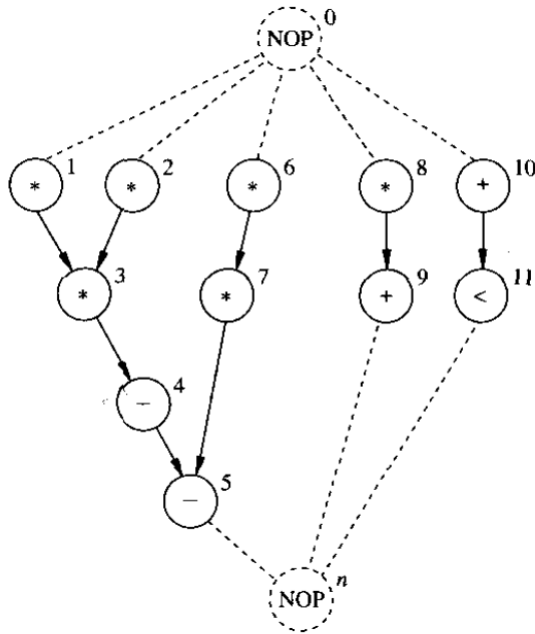

Fig. 1. Initial Sequencing Graph
**NOTE** Throughout the explanation of Force-Direct and Force-Direct List-Scheduling algorithms, the references ([1] and [2]) are using this specific sequencing diagram (Figure 1).